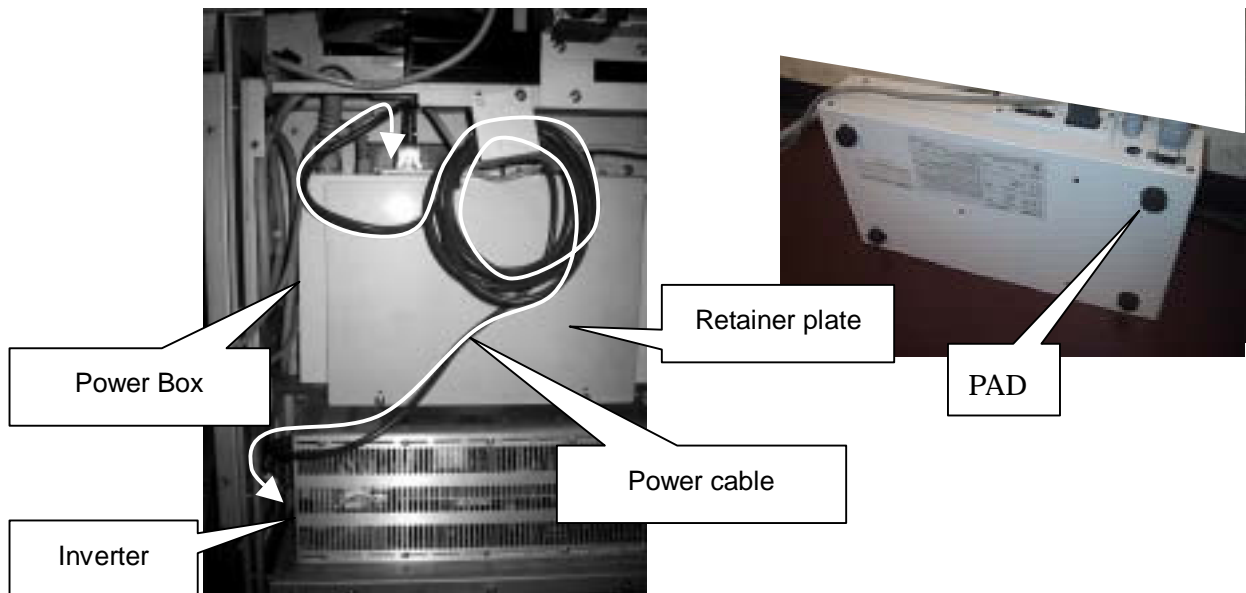

Fig. 4-4 Fixing the Power Box and wiring
- Connect the power cable to the inverter and Power Box. (Refer to Fig. 4-4.) Roll the excessive cable.